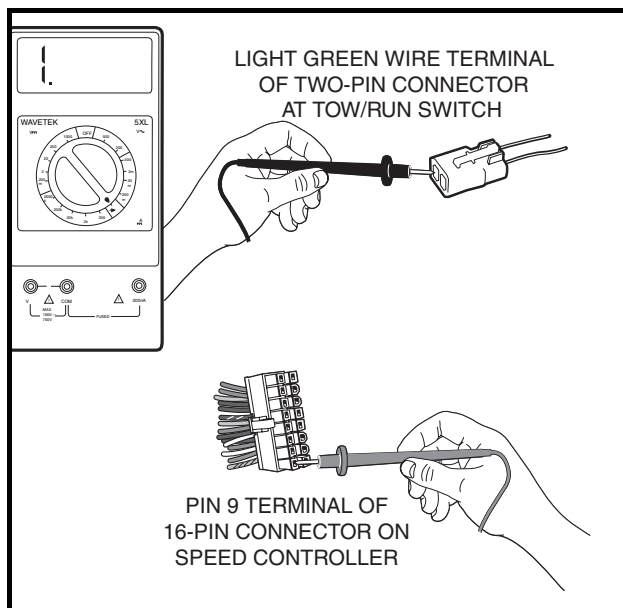

Figure 11-18 Diode Test
4. With the multimeter set to the diode test function ( $\rightarrow|$ ), connect the black (-) probe of the multimeter to the light green wire terminal of the two-pin connector at the Tow/Run switch and the red (+) probe of the multimeter to the pin 9 terminal (Figure 11-18, Page 11-33). See following **CAUTION**. The reading should indicate an overload (no continuity). A diode is designed to conduct current in one direction only. If a diode conducts current (shows continuity) with the meter probes as described, the diode has failed and must be removed from the wire harness. See **Pin 9 Diode Removal, Section 13, Page 13-14.**